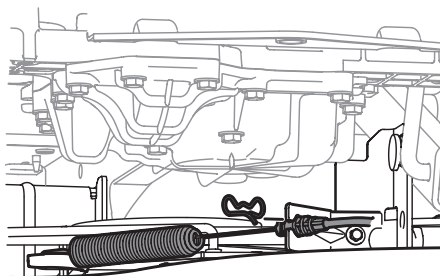

Figure 39
7. Remove the bow tie clip that secures the PTO cable to the bracket on the deck, slide the PTO cable out of the bracket and unhook the spring from the idler bracket. See Figure 39.